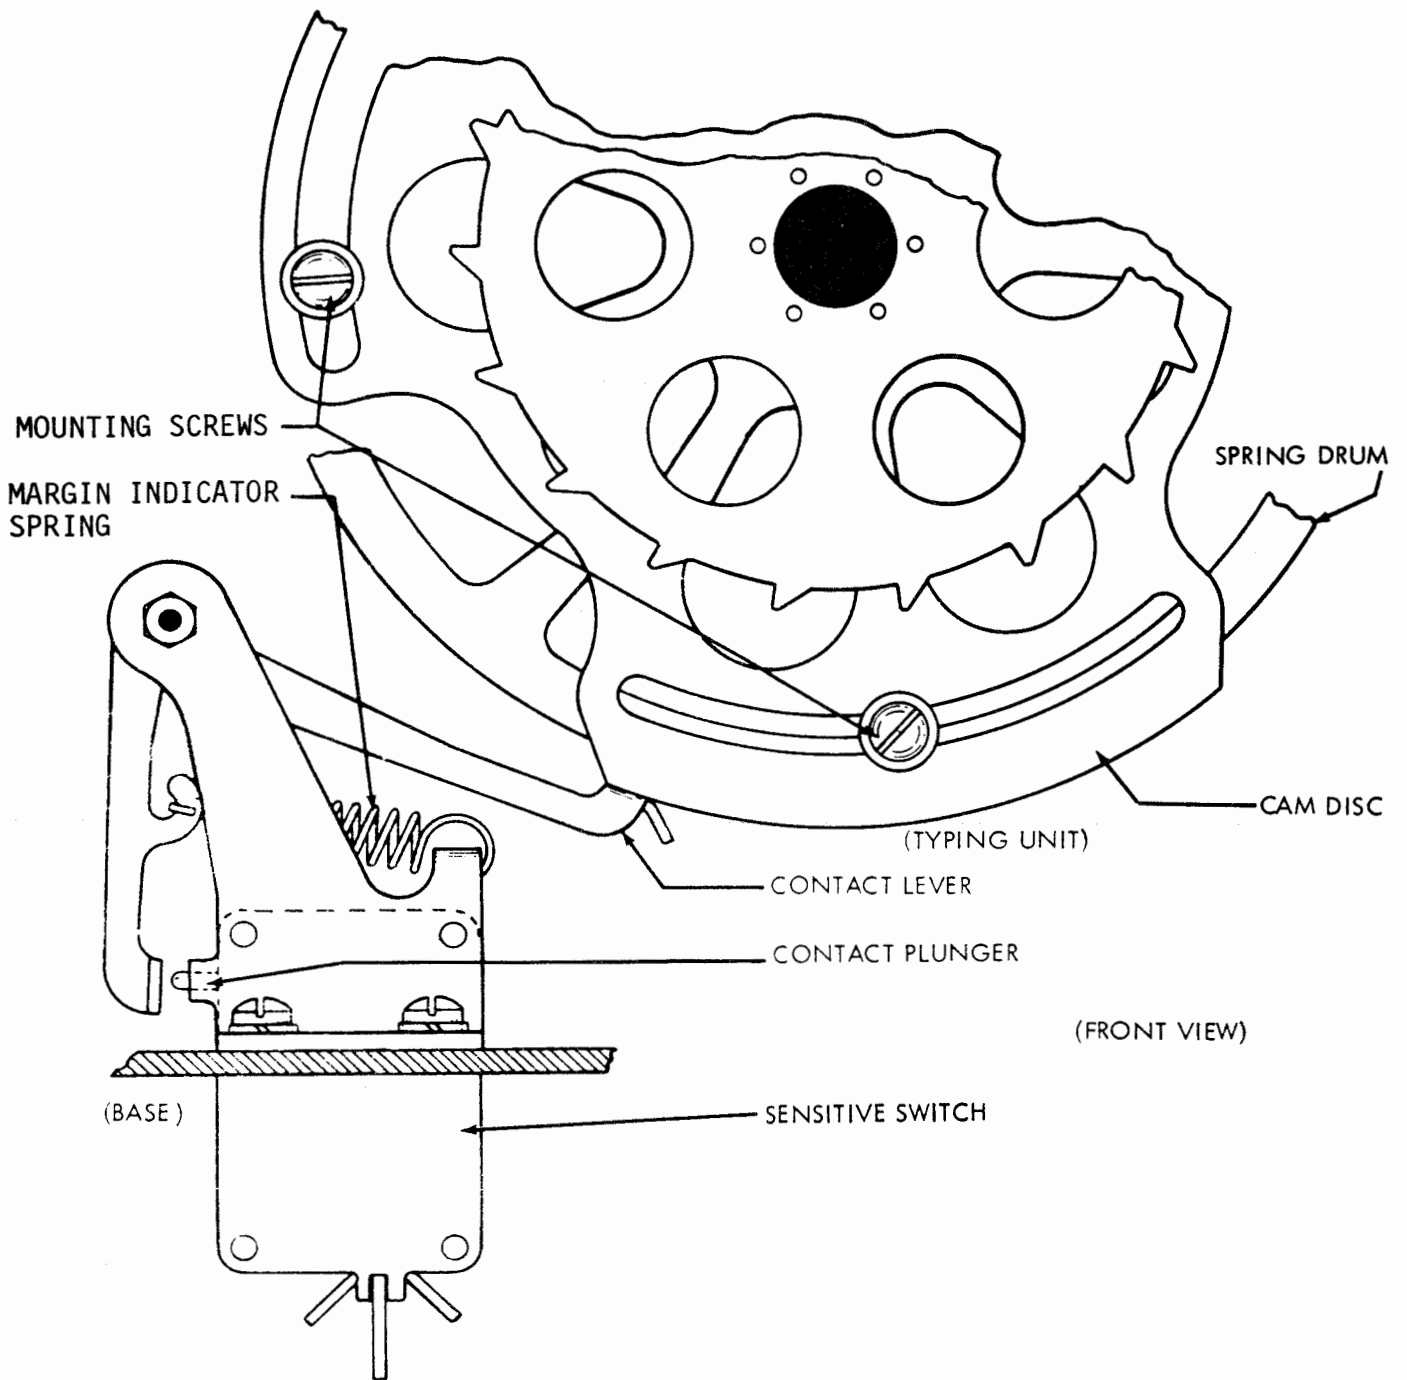
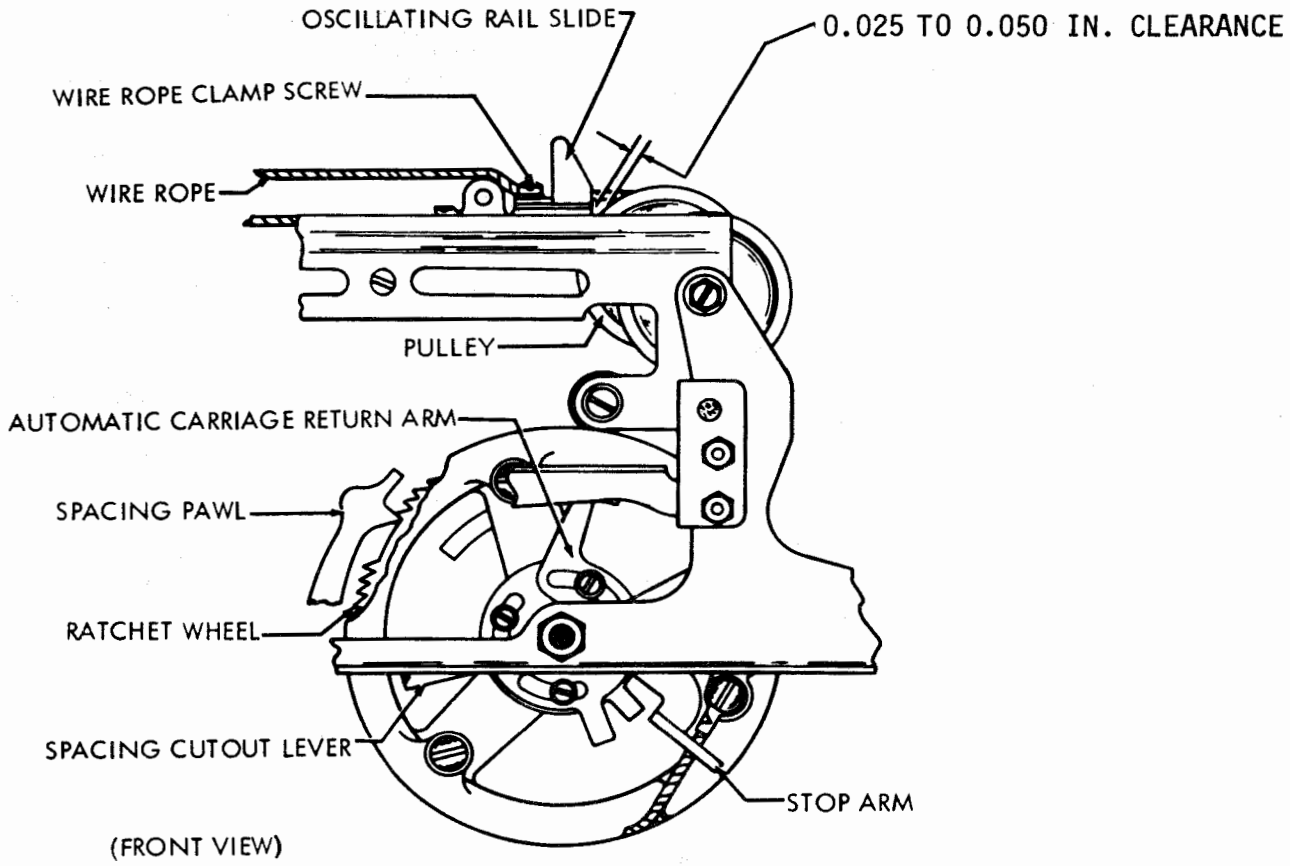

Figure 6-256. Margin Indicator Lamp
Figure 6-257. Oscillating Rail Slide Position
(8) Margin Indicator Lamp. Adjust margin indicator lamp as follows:
- (a) Refer to figure 6-256.
(9) Oscillating Rail Slide Position.
- (a) Refer to figure 6-257.